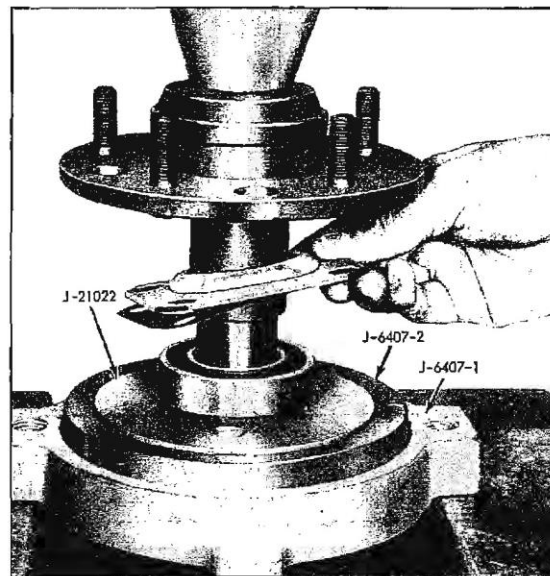

Fig. 4-12 Installing Axle Shaft Bearing
2. Press new axle shaft bearing against shoulder on axle shaft using installer J-21022 with holder J-6407 (Fig. 4-12).